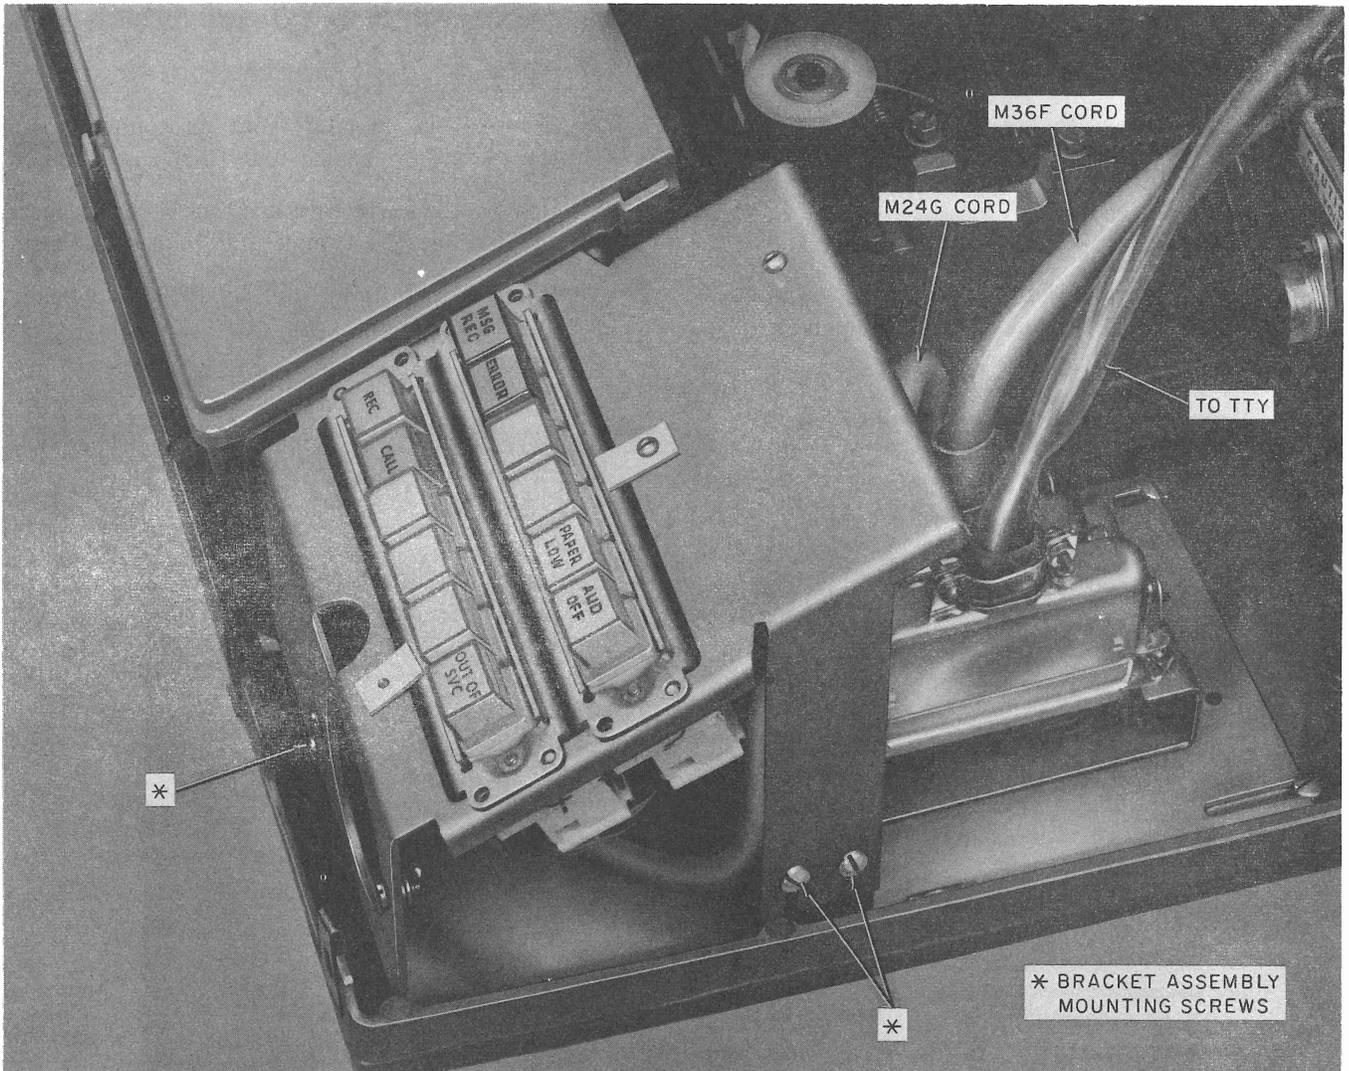

Fig. 8—33 RO TTY Data Station—Data Auxiliary Set 804N2
- (1) Perform 2.01 (1) through (8).
- (2) Remove the attendant set by removing the four screws on the mounting plate (Fig. 8).
- (3) Move the attendant set to the right to gain access to the two left bracket assembly mounting screws.
- (4) Loosen but do not remove five bracket assembly mounting screws on the attendant set (Fig. 8).
- (5) Disconnect the plug on the M24G cord (part of the 804N2 attendant set) from the connector at the rear of the attendant set.
- (6) Remove the mounting bracket, key and lamp assembly, and loudspeaker by lifting vertically.